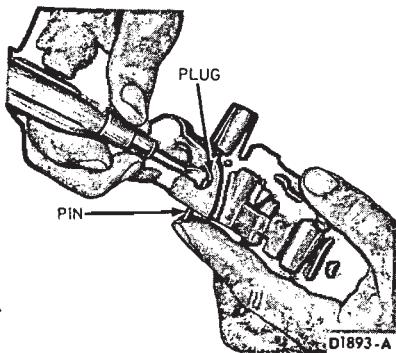

FIG. 64—Removing or Installing Throttle Booster Valve—C4 Automatic—Falcon
17. Hold the upper valve body as shown in Fig. 64 and depress the throttle booster valve plug to release the retaining pin. Remove the plug, valve and the spring.